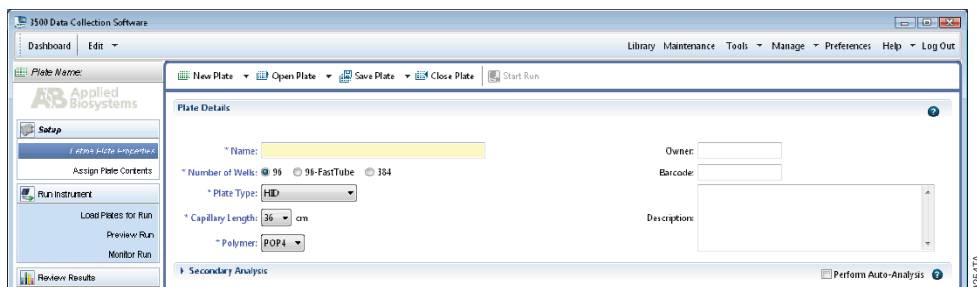

Figure 9. Assigning plate contents.
4. Assign a descriptive plate name. Select the plate type “HID” from the drop-down menu (Figure 9).